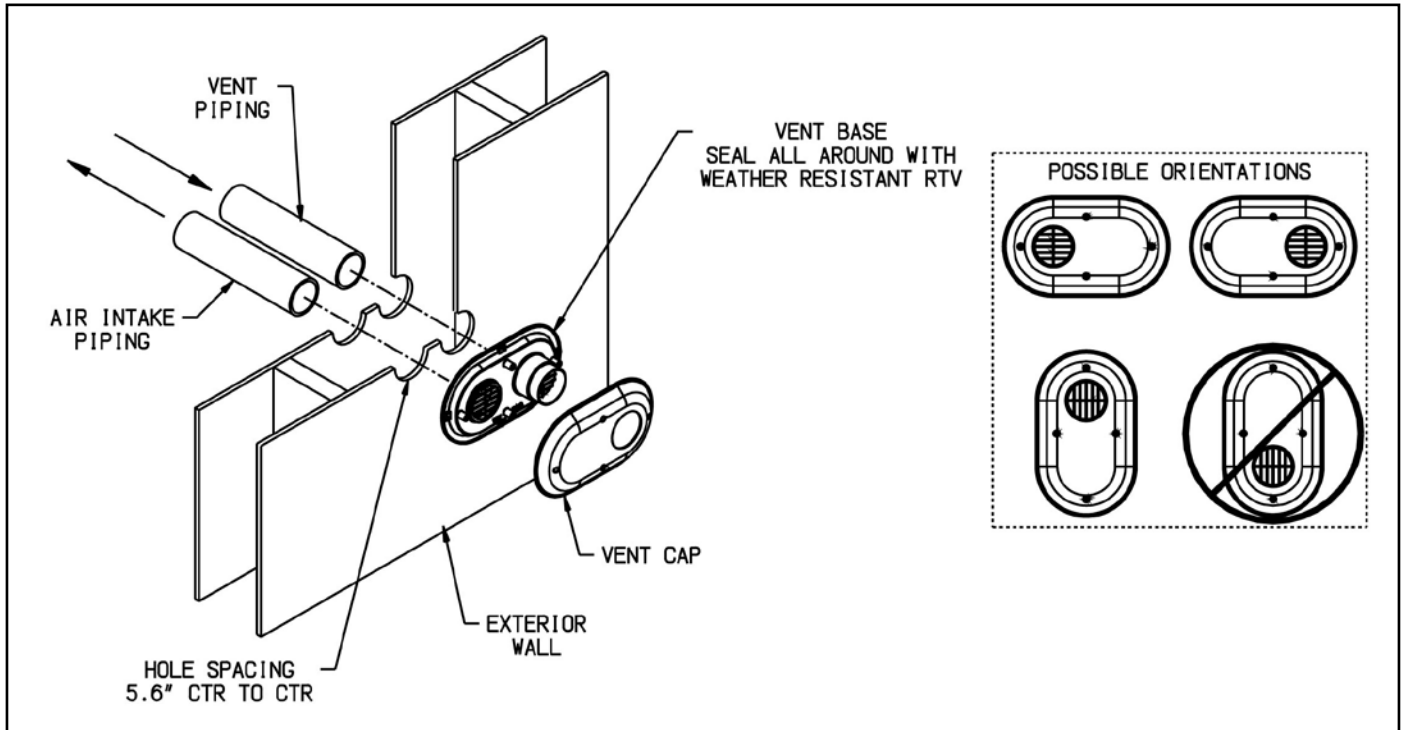

Figure 7.30: Installation of IPEX Low Profile Terminal Through Sidewall
6. Installation of IPEX low profile vent terminal (Terminal Option B) - See Figure 7.30: